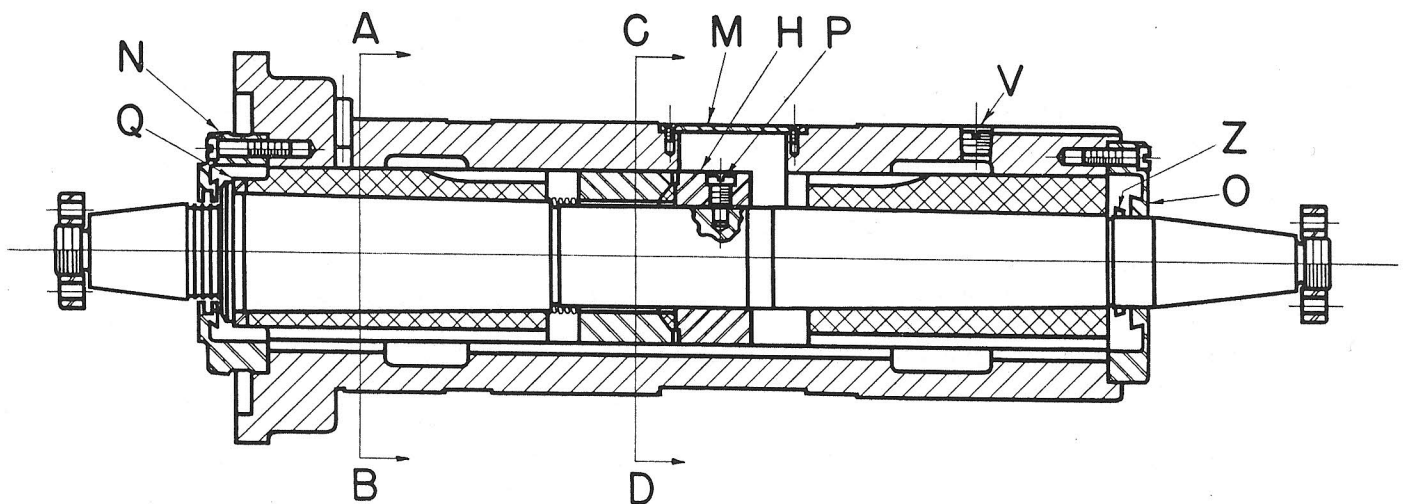

Fig. 17. Plain Bearing Spindle Unit
Lubrication. The spindle is lubricated automatically from a reservoir supplied by a constant-level oiler (see Fig. 17).
Correct Height of Oiler. To assure proper height of oil in the spindle reservoir, the vertical distance D (Fig. 17) from the center of the spindle to the top edge of the cup (with bottle swung down) must be $2\frac{5}{32}$ " plus or minus $\frac{1}{64}$ ".
2. Take out the five Rear Bearing Dust Guard screws and remove the guard O (Fig 17).
1. Put the front box thrust washer Q on the spindle and insert the spindle in the boxes, slipping the thrust spring retainer (with springs in place), the central thrust washer and the thrust collar H onto the spindle in that order as shown in Fig. 17. Make sure that the pins in the front and central thrust washers are inserted in their holes.
*Make certain that hole in breather screw V (Fig. 17) has not been closed with grease or dirt.